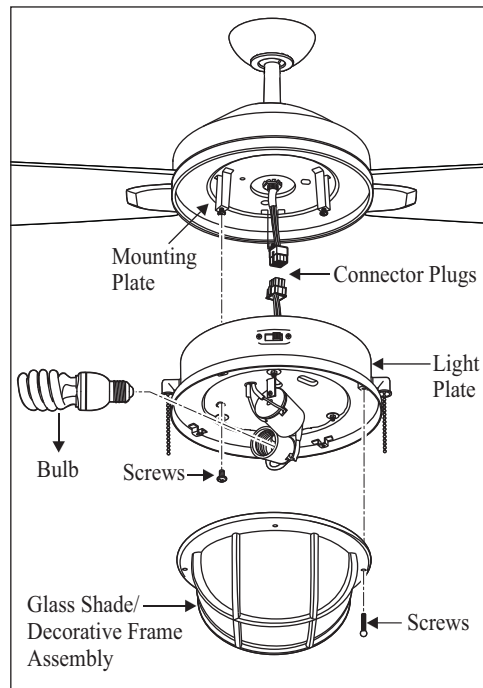

Figure 15
3. Place the key holes on the light plate over the 2 light kit mounting screws previously loosened from the mounting ring, turn the light plate until he light plate locks in place at the narrow section of the key holes. Secure by tightening the 2 light kit mounting screws previously loosened and the one previously removed. (Fig. 15)
the holes in the rim of the decorative frame with the light kit and secure using the three decorative screws provided with the light kit hardware. DO NOT OVER TIGHTEN.EN. (Fig. 15)